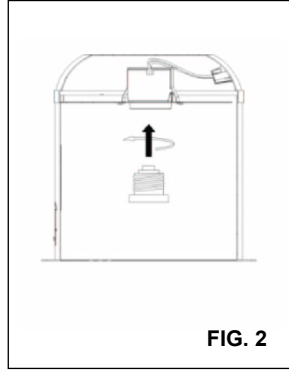

FIG. 2
2. Thread the SOCKET ADAPTER into the SOCKET. **(FIG. 2)**
5. Tuck all wires into the CAN and carefully push the RETROFIT KIT into CAN. (NOTE: To provide enough room in shallow cans, carefully position SOCKET ADAPTER and SOCKET adjacent to the side of the LED DRIVER prior to inserting the RETROFIT KIT into the CAN.) **(FIG. 2 & 3)**
2. Squeeze both TORSION SPRING arms together and insert into the CAN. Tuck all wires into the CAN and carefully push the RETROFIT KIT into CAN. **(FIG. 2 & 3)**